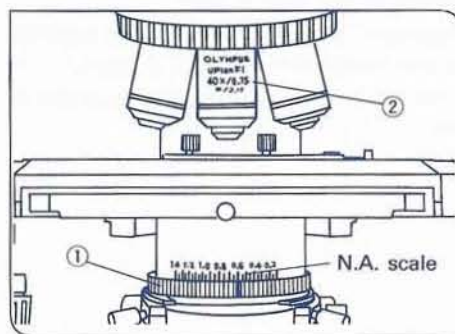

Fig. 42
Set the condenser numerical aperture ① to about 80% of the NA value ② indicated on the objective. (Fig. 42)